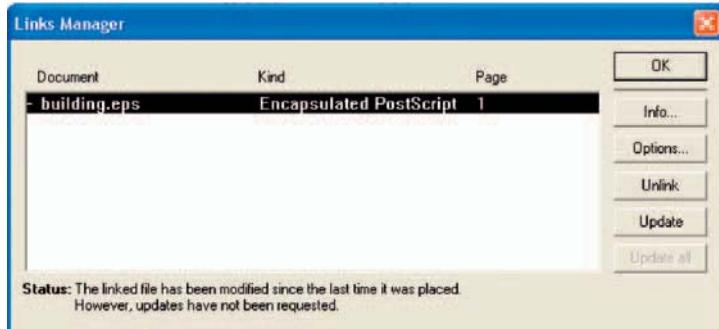

Fig. 10.5 The **Links Manager** dialog of PageMaker
Second example – EPS file (Fig. 10.5)
8. Go back into **PageMaker** and click **Links Manager...** in the **File** drop-down menu. The **Links Manager** dialog appears (Fig. 10.5).